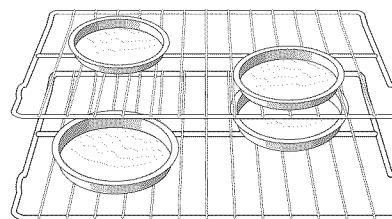

Figure 8: Baking on multiple levels
- For best results when baking cakes or cookies using 2 oven racks, place cookware in rack positions 3 & 6 and pans as shown in Fig. 8, on page 15